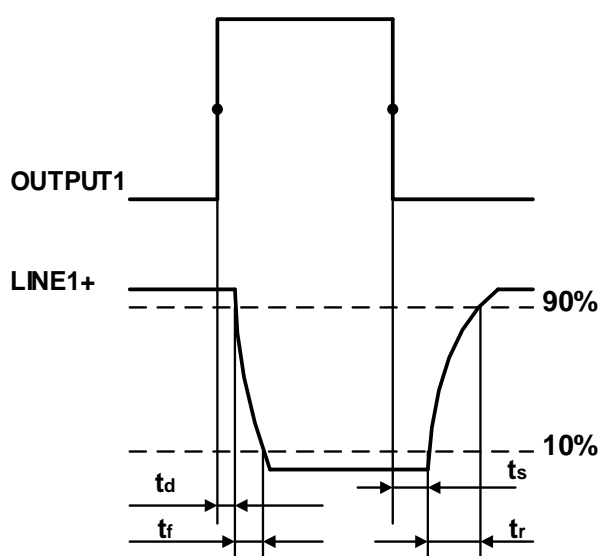

Figure 7-6 Parameter of opto-isolated output circuit
- Rising time delay = $t_r + t_d$: $< 50\mu s$ (0°C~45°C) (parameter description is shown in Figure 7-6)
- Falling time delay = $t_s + t_f$: $< 50\mu s$ (0°C~45°C) (parameter description is shown in Figure 7-6)
- Rising time delay = $t_r + t_d$: <20μs (0°C~45°C) (parameter description as shown in Figure 7-6)
- Falling time delay = $t_s + t_f$: <20μs (0°C~45°C) (parameter description as shown in Figure 7-6)